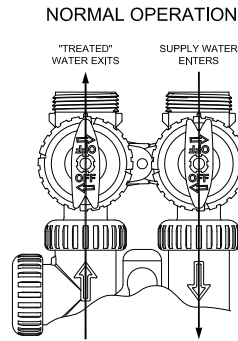

figure 1
**1. Normal Operation Position:** The inlet and outlet handles point in the direction of flow indicated by the engraved arrows on the control valve. Water flows through the control valve during normal operation and this position also allows the control valve to isolate the media bed during the regeneration cycle. (see figure 1)
When water is flowing steadily to drain without the presence of air, momentarily press  again. Display will read **RINSE**. Open the outlet valve of the conditioner, or if using optional bypass place to **NORMAL OPERATION MODE** (see figure 1 on page 4). Allow control to finish the **RINSE** cycle. Allow the control to automatically advance to the **SOFTENING** position. Now load the brine tank with salt. Solar Salt is recommended. The brine tank salt level should be checked every couple of weeks to determine salt usage. Keeping the brine tank salt level at least 1/2 full is recommended.